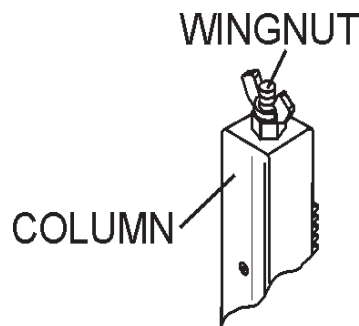

Figure 6. Wingnut Removal
- Remove the wingnut located at the top of the column as shown in Figure 6.